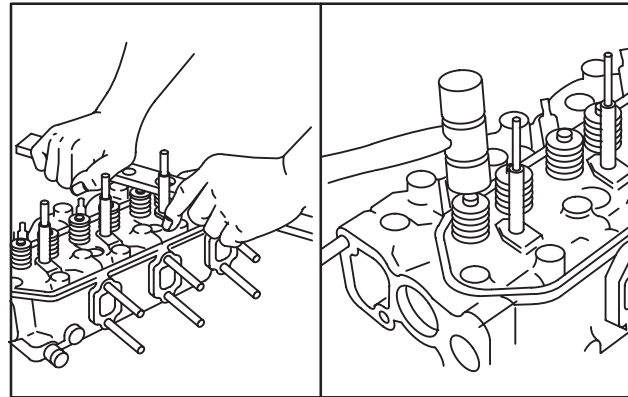

Fig. 28 – Install Valve Springs
4. Install valve springs with valve spring compressor, Tool #19417, Fig. 28.